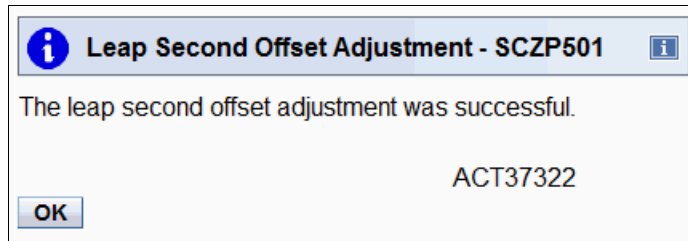

Figure 9-41 System (Sysplex) Time: Leap Second Offset Adjustment panel
- c. The Leap Second Offset Adjustment panel opens (Figure 9-41). Click **OK**.